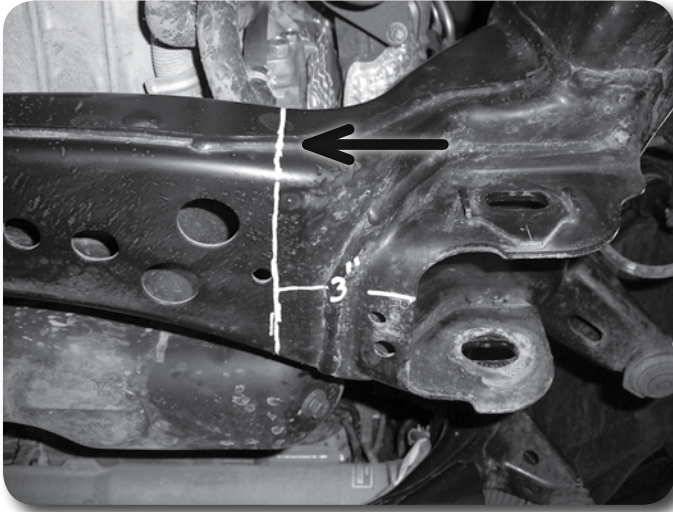

Figure 22
28. On the passenger's side, measure in and mark 3" from the inside edge of the control arm pocket **Figure 22**. Extend the line along the bottom of the crossmember